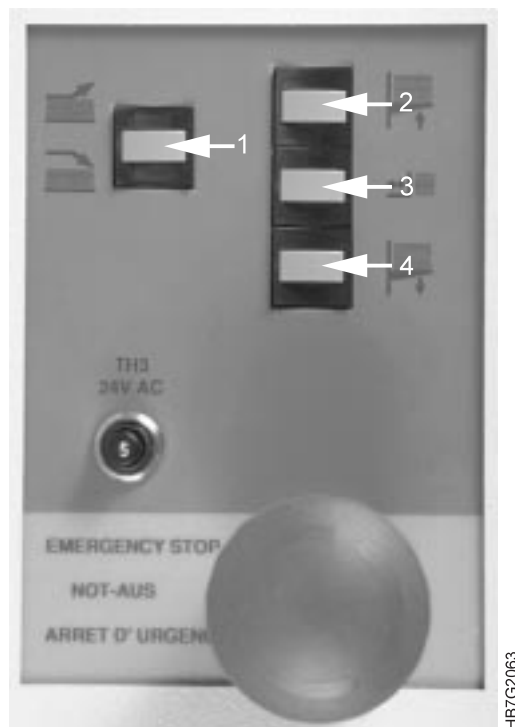

Figure 80. Output Stacker Keypad
**1** Locate the keyboard, as shown in Figure 80, on the top left side of the output stacker.